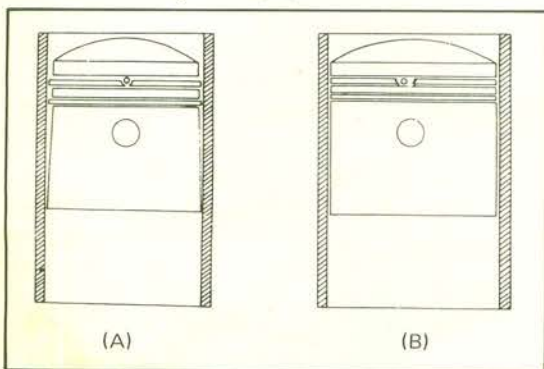

Fig. 3-6-1
The piston has a slight taper below the ring section when it is cold, as shown in Fig. 3-6-1 (A). When it warms up, the expansion of the ring section is greater than that of the skirt because the ring section is exposed to higher temperatures. This decreases the normal clearance between the piston and cylinder wall, as shown in Fig. 3-6-1 (B).